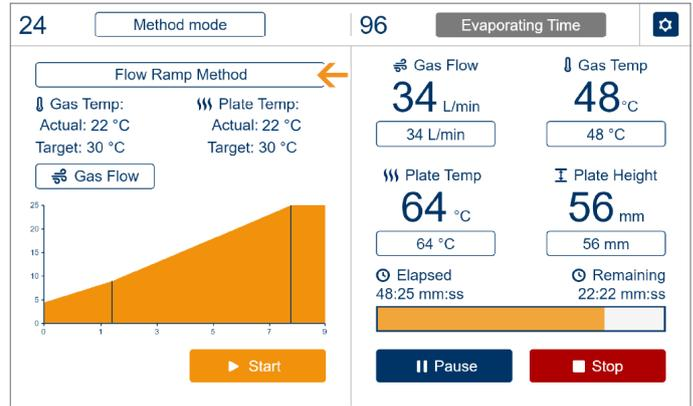

Figure 26. The Evaporate view where methods can be accessed. In this view, the Flow Step Method is selected, as displayed on the Method button.
2. Press the **Method** button in the appearing Evaporate view, see Figure 26, to access the methods.